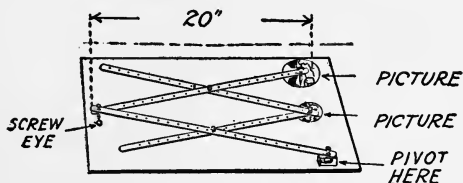

FIG. 51. HOW A PANTAGRAPH IS MADE AND USED
**How to Make and Use a Pantagraph.**—A pantagraph is a simple mechanical linkage for enlarging, copying or reducing the size of a picture. It is shown in Fig. 51.